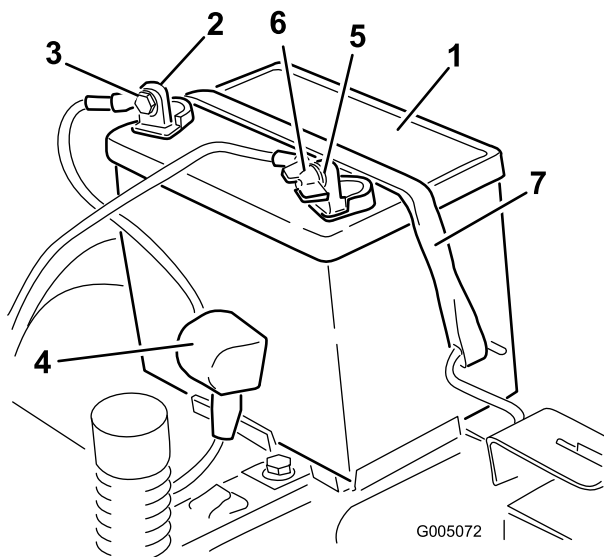

Figure 47
4. Disconnect the negative (black) ground cable from the battery post (Figure 47).
6. Disconnect the positive (red) cable from the battery post (Figure 47).
7. Remove the battery hold-down (Figure 47), and lift the battery from the battery tray.
1. Position the battery in the tray (Figure 47).
5. Secure the battery with the hold-down (Figure 47).